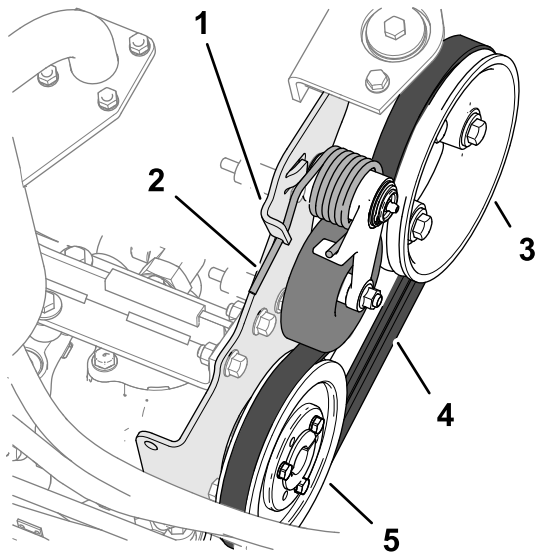

Figure 84
2. Push down the end of the belt-tension spring down and out of the notch in the tab of the pump mount, and move the spring end forward (Figure 84).